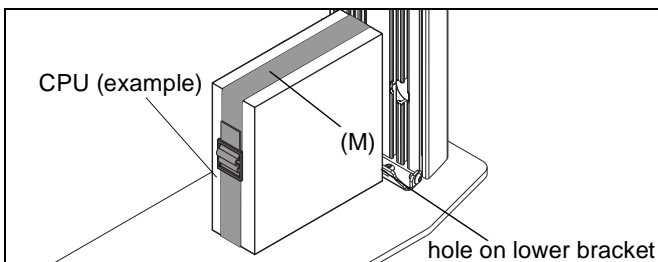

Figure 13
1. Route CPU strap (M) through hole on lower bracket and around CPU to secure CPU to column base. (See Figure 13)